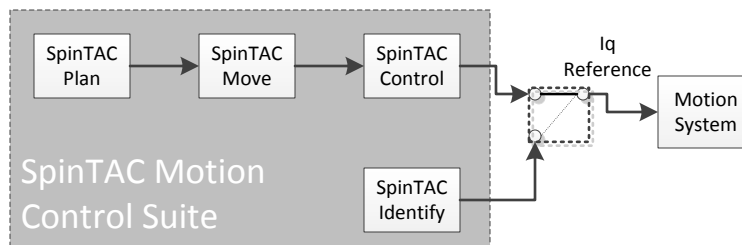

Figure 1-6. SpinTAC Motion Control Suite Components
- SpinTAC, a comprehensive motion control suite (see Figure 1-6) from LineStream Technologies, simplifies tuning and ensures optimal performance across dynamic speed and position ranges.